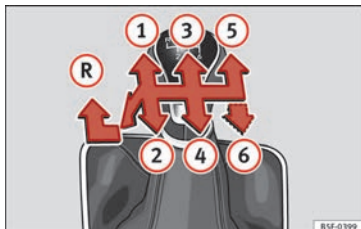

Fig. 54 Gear shift pattern of a 5 or 6-speed manual gearbox.
The position of the gears is indicated on the gearbox lever » **Fig. 54**.
- With the gearbox lever in neutral, push it downwards, move it to the left as far as it will go and then forwards to select reverse » **Fig. 54 (R)**.